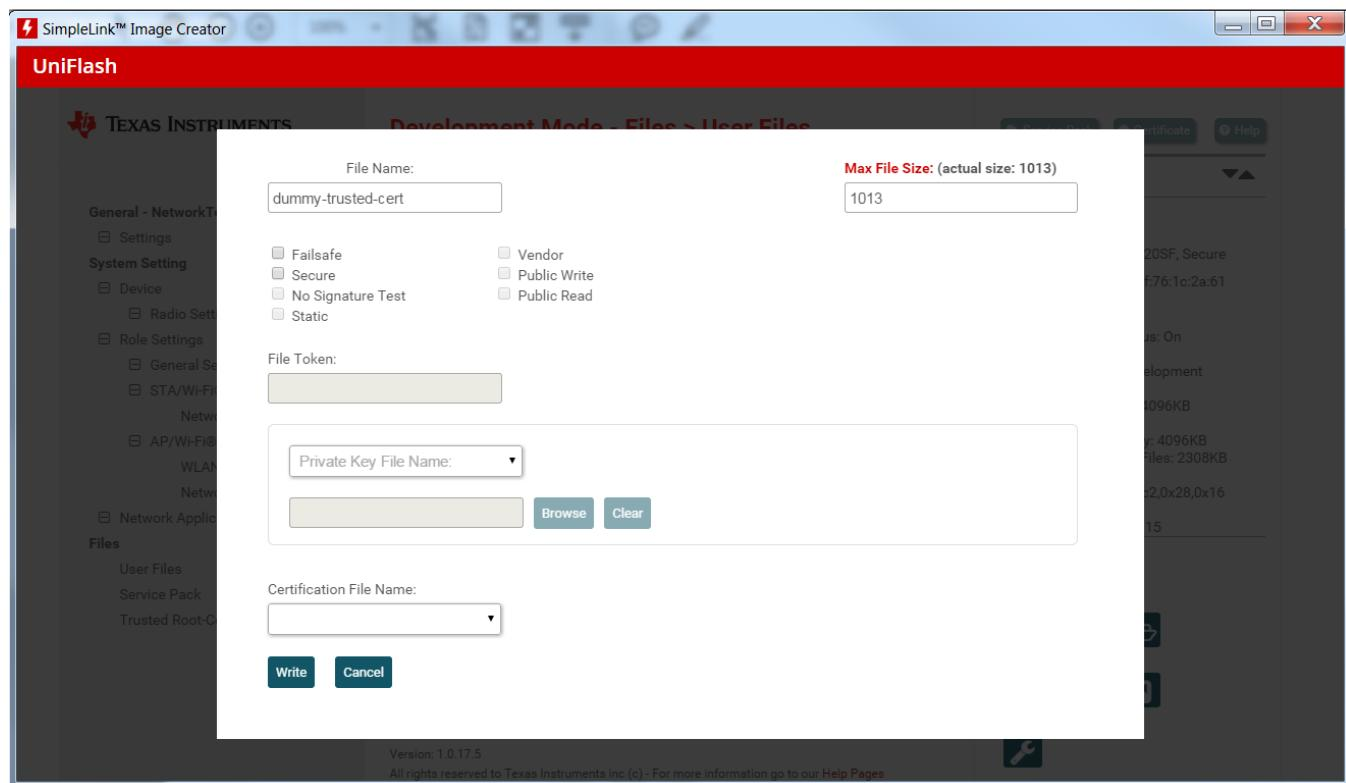

Figure 3-12. Select Certificate File
4. Select the following certificate files from <sdk-installation>\tools\certificate-playground and click Write, as shown in Figure 3-12. Note that operation should be repeated to each of certificate files (that compose a chain of trust):